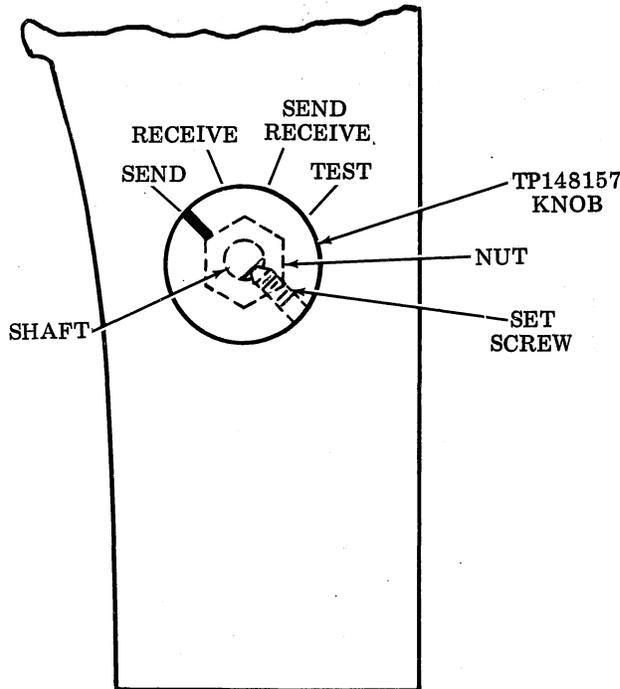

Figure 2 - S-R Rotary Mode Switch
3.06 Bring the S-R rotary mode switch (part of the TP199620 cable assembly) to front of cabinet by routing cable along right side of data set shelf. Mount mode switch (Figure 2)